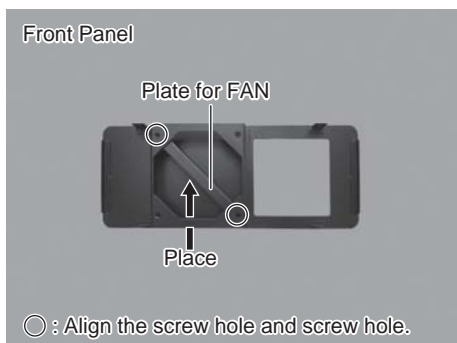

Fig. 43
- (9) Position the Plate for FAN on the Case (Front Panel) as shown in Fig. 43.